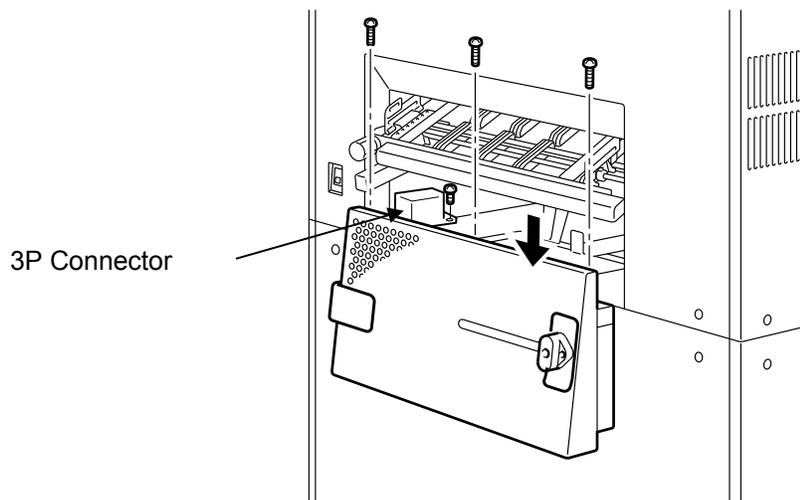

Figure 4-2
3. Fasten the Suction Brake (Figure 4-2) using the three mounting screws supplied.